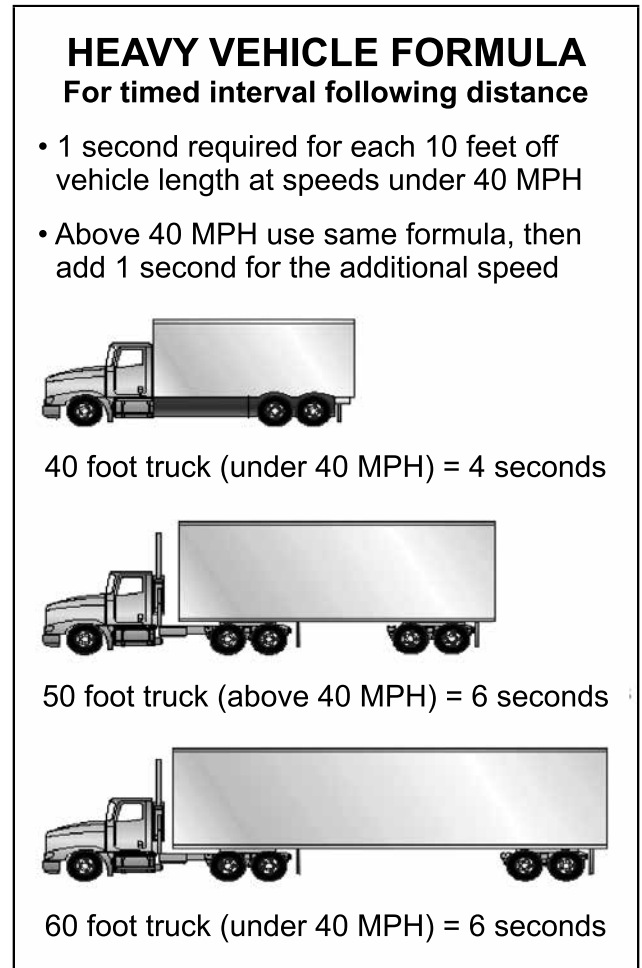

Figure 2.12
**How Much Space?** How much space should you keep in front of you? One good rule says you need at least 1 second for each 10 feet of vehicle length at speeds below 40 mph. At greater speeds, you must add 1 second for safety. For example, if you are driving a 40-foot vehicle, you should leave 4 seconds between you and the vehicle ahead. In a 60-foot rig, you will need 6 seconds. Over 40 mph, you would need 5 seconds for a 40-foot vehicle and 7 seconds for a 60-foot vehicle. See Figure 2.12.